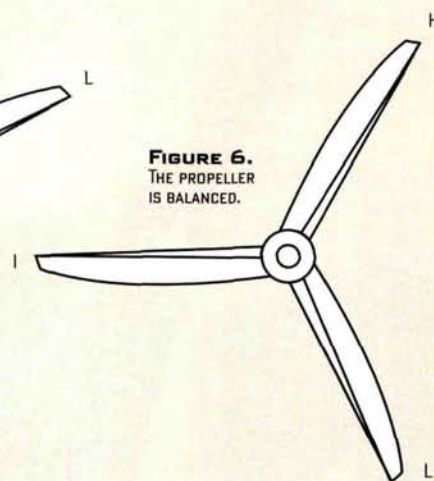

FIGURE 6.
3 The final step is to lighten the new heavy blade (I) until it sits horizontally (see Figure 6), thus becoming balanced with L and H.